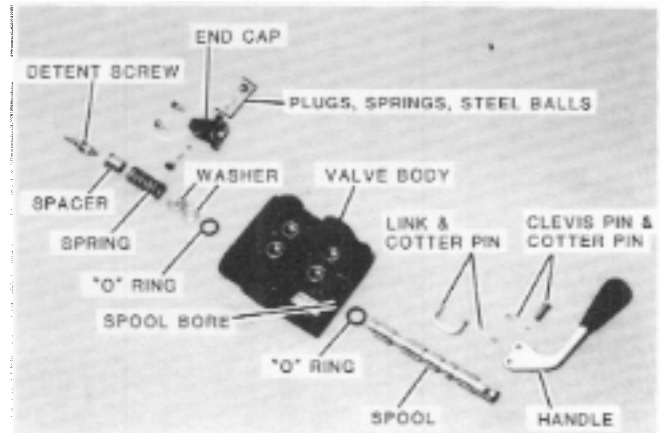

FIG. 17. Spool With Detent
3. Remove two detent plugs, springs and balls from detent end cap (Fig. 17). Remove two detent end cap screws and end cap from valve.
3. Coat detent spool with oil and slide spool into valve bore from relief valve side (Fig. 17). Push spool into bore only far enough to expose handle side "O" Ring groove in valve body. Coat "O" Ring with lithium grease and install in groove of valve body. Check that "O" Ring is properly seated in groove. Push spool over "O" Ring only far enough so that other end of spool exposes "O" Ring groove in valve body.